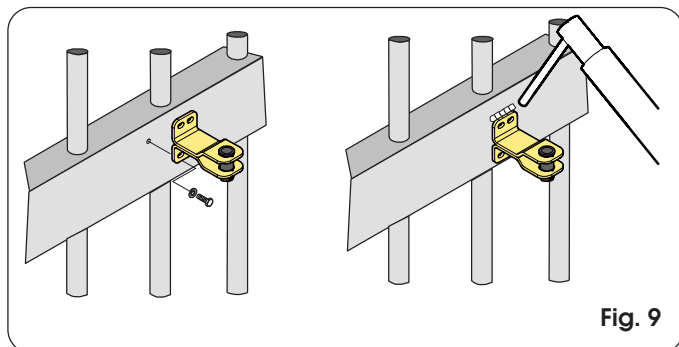

Fig. 9
- Remove the fitting from the operator and fit it on the leaf. The fitting can be either welded directly or screwed on, using the threaded inserts (Fig. 9).